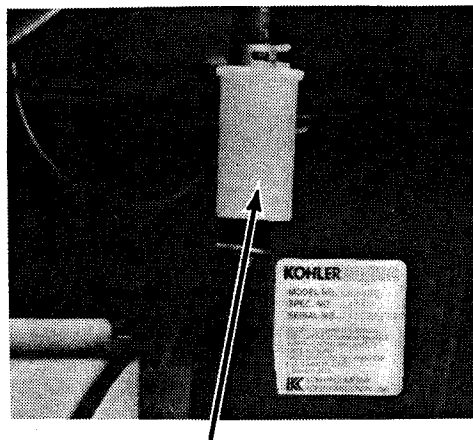

Figure 19. In-line fuel filter.
2. Slide the hose clamps off. Remove the filter. Refer to Figure 19. Collect fuel in a suitable container.